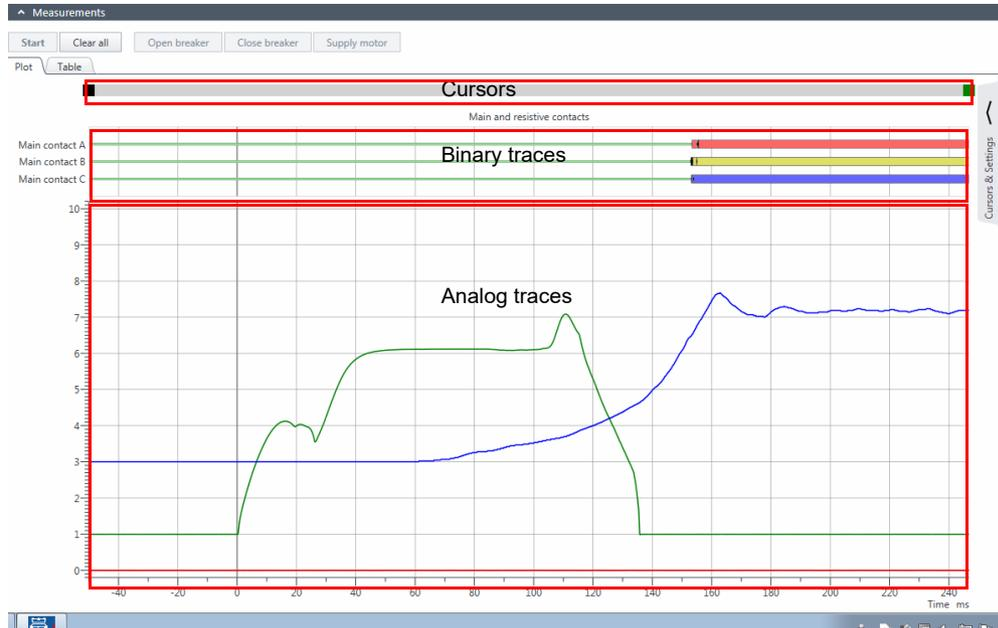
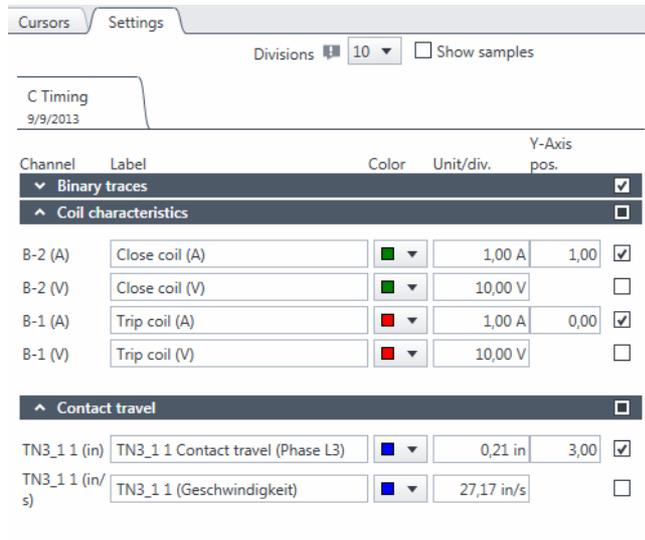

Figure 12-1: Example of the graphical display of measurement data
Figure 12-3: Cursors & settings workspace: **Settings** tab
Because the graphical display may contain curves with different units, for example, Volts, Amperes or Ohms, the scale on the Y-axis has no units but a unitless numbers called division (div). On the **Settings** tab, you can set how many, for example, Amperes shows the graphical display per division. As an example, the B-2 (A) channel in Figure 12-1: "Example of the graphical display of measurement data" on page 87 has its highest peak at the seventh division. As the offset on the Y-axis is 1 division and the magnitude is 1 A/div (see Figure 12-3: "Cursors & settings workspace: Settings tab" on page 88), the peak close coil current is approx. $(7-1) \times 1 = 6$ A.